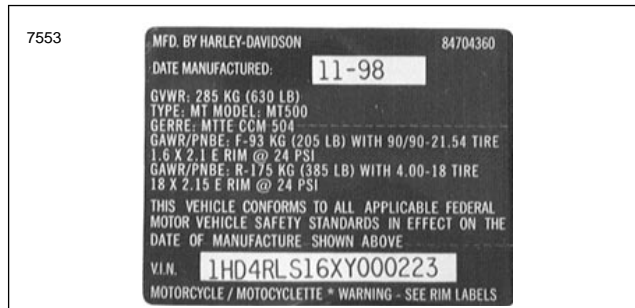
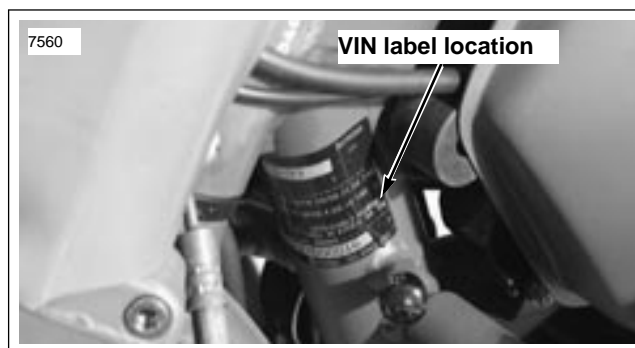

Figure 1. VIN Number Label
Figure 2. VIN Number Label Location
1. Vehicle Identification Number. See Figure 1
1. Clean frame surface at location shown in Figure 2.
2. See Figure 1. Remove adhesive backing from new label. Affix new label in the position shown in Figure 2.